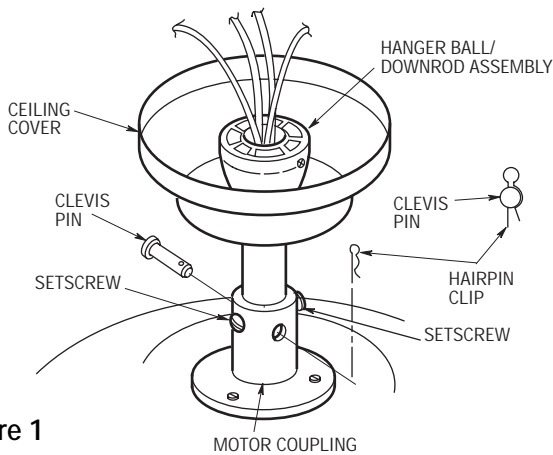

Figure 1
3. Remove the two setscrews from the motor coupling. Align the clevis pin holes in the downrod with the holes in the motor coupling. Install the clevis pin and secure with the hairpin clip (Figure 1). The clevis pin must go through the holes in the motor coupling and the holes in the downrod. Be sure to
- 4. Reinstall the two setscrews in the motor coupling. While pulling up on the hanger ball, securely tighten the setscrews. (Figure 1).